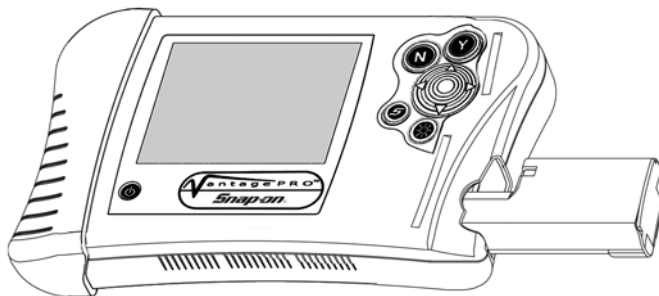

Figure 3-2 Battery pack slot
- Remove the right handgrip and insert the battery pack into the vacant battery slot (Figure 3-2).